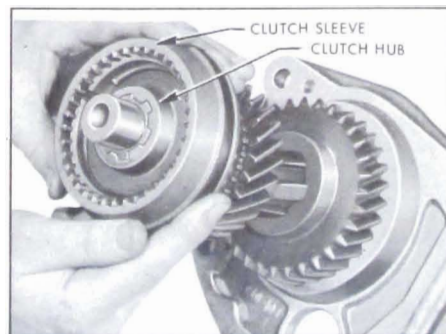

Figure 4-96—Installing 2nd & 3rd Speed Clutch Hub & Sleeve
5. Install second speed gear, hub sleeve on clutch hub as shown in Figure 4-96.
sleeve on clutch hub as shown in Figure 4-96.
8. Install sleeve, hub, and synchronizing ring assembly on mainshaft. See Figure 4-96.